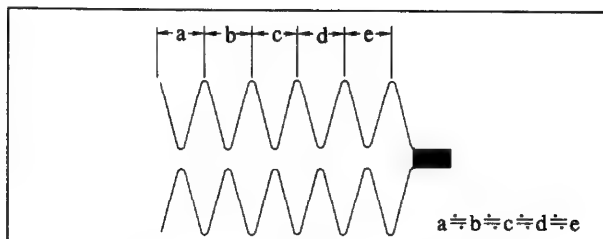

Fig. 43
### 5-5. CUE AND REV WAVEFORM CHECK (Fig. 43)
- 1) Play back the alignment tape for tracking adjustment and set the REV mode. Confirm that waveform peaks maintain a constant pitch of 5 seconds or more (Fig. 43). In case pitch is not constant, perform section 5-2.Tracking Fine Adjustment and section 5-4. No.7 Guide Adjustment.
- 2) Set the CUE mode. Confirm that waveform peaks still maintain a constant pitch of 5 seconds or more (Fig. 43). Otherwise, perform section 5-2 Tracking Fine Adjustment.